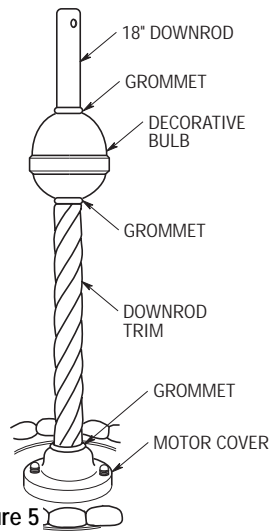

Figure 5
- 7. If you have installed the 18" downrod, install the downrod trim and decorative bulb as follows (Figure 5). Slide the decorative trim (grommet-end first) over the downrod and seat the grommet firmly against the motor cover. Then slide the decorative bulb (oriented as shown) over the downrod, being certain that the downrod trim seats in the bottom grommet of the decorative bulb.
- 8. Position the ceiling cover trim and the ceiling cover over the downrod. Be sure the cover is oriented correctly, with the large opening at the top (Figure 5).